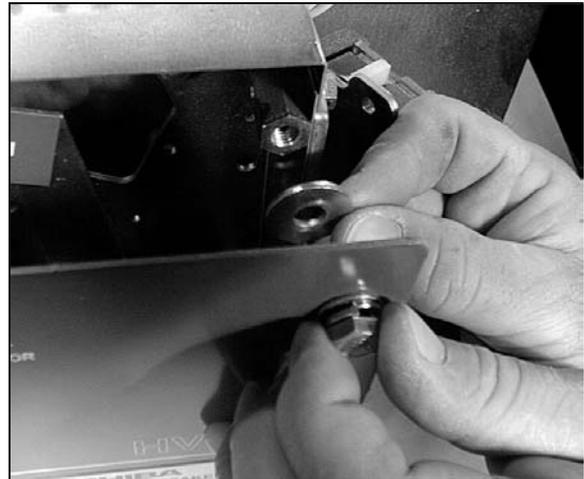

Fig. 9 Remove Front Plate and Spacer Washers
2. Remove the four front plate mounting bolts (M8) from the circuit breaker (Fig. 9). Remove the spacer washers between the front plate and breaker and discard them (make sure none are left inside the breaker),